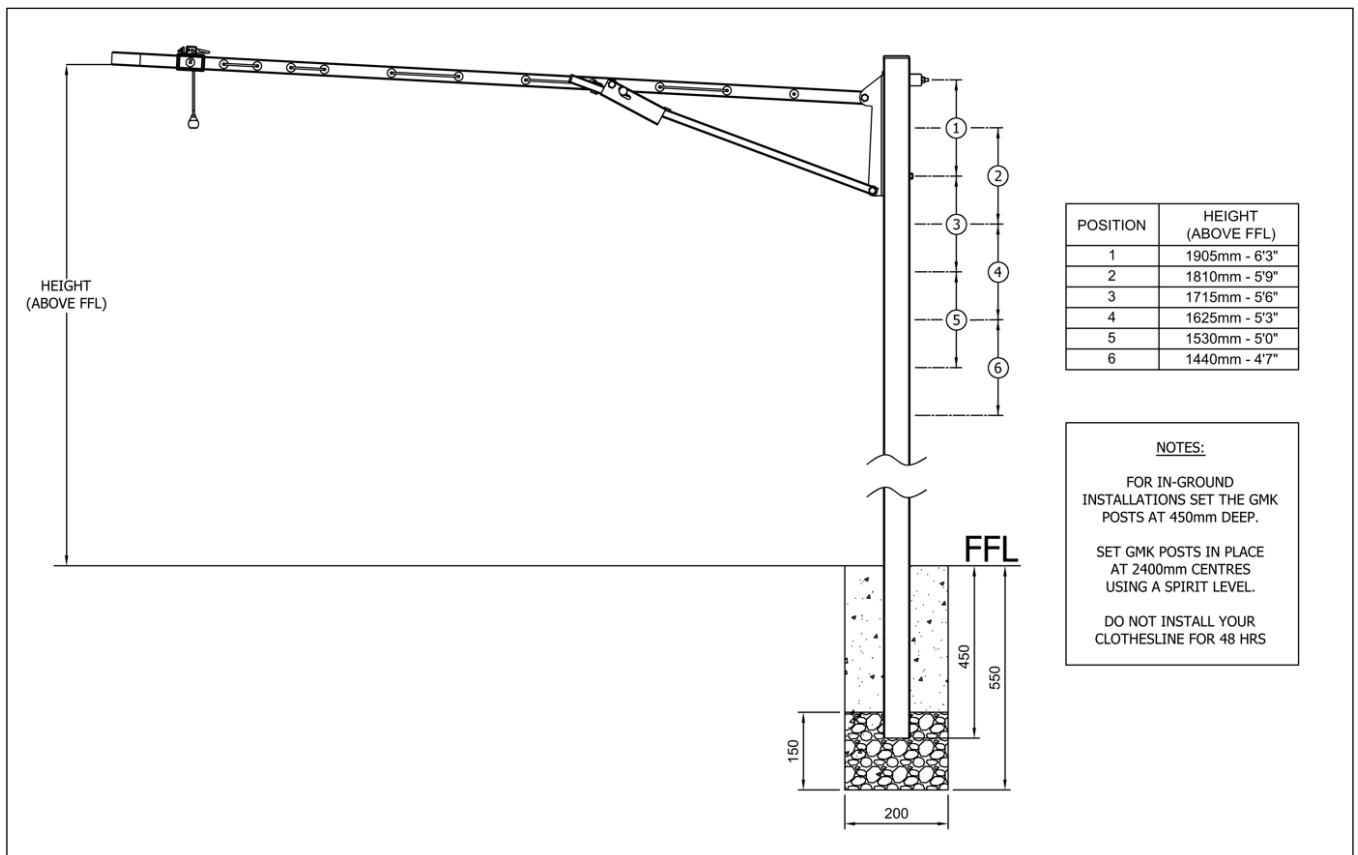

Fig. 8 GMK in-ground installation.
- Install the GMK as per the below image (Fig 8) at 3,300mm centres.